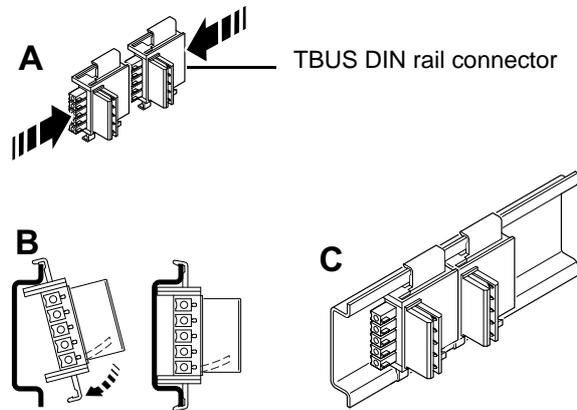

Figure 3-9 Mounting TBUS DIN rail connectors
- Connect together the required number of DIN rail connectors for the connection station (see Figure 3-9, A).